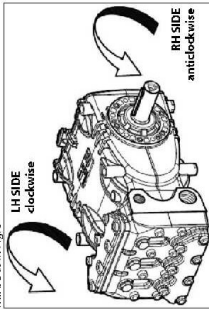

Fig. 5
From a position facing the pump head, the rotation direction will be as in Fig. 5.
**Note:** The version shown in Fig. 5 is right.